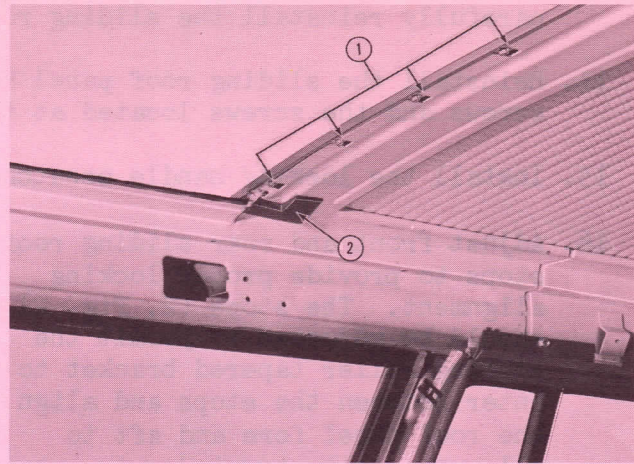

Fig. 4
15. Apply sealer to the underside of the body roof rear trim molding retainers (1, Fig. 4) filling the nine retainer ends and the holes around them with a hardening type of sealer. (Eyebrow sealer is available in 1/2 pint cans from the Parts and Service Division, South Bend 27, Indiana. Order by description.)
18. Install a new Weatherseal ('L' shaped), Part No. 1353898 R and 1353899 L onto the body main roof panel reinforcement. (See 2, Fig. 4.) The tapered section will point towards the center line of the body and the heavy section curved end must fit and be securely cemented to the off-set section of the main roof panel to form a lap-dam for the sliding roof panel weatherseal. The narrow thick section should be placed directly in line with the fore and aft trim moldings located on the edge of the roof side panels. Exercise careful workmanship, positive cementing, and accurate location of these seals into position.